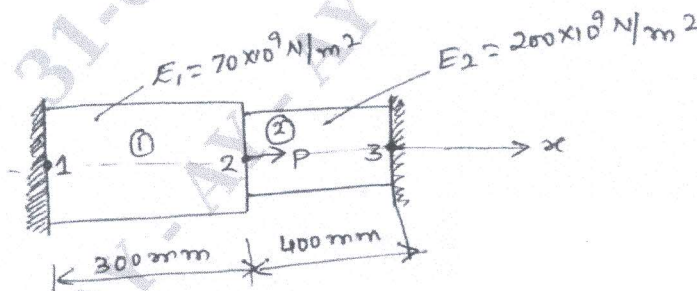

Fig. Q5 (a)
- Determine the nodal displacements, stresses in each element and support reactions for the bar as shown in Fig. Q5 (a). Using elimination method for handling boundary conditions. (12 Marks)